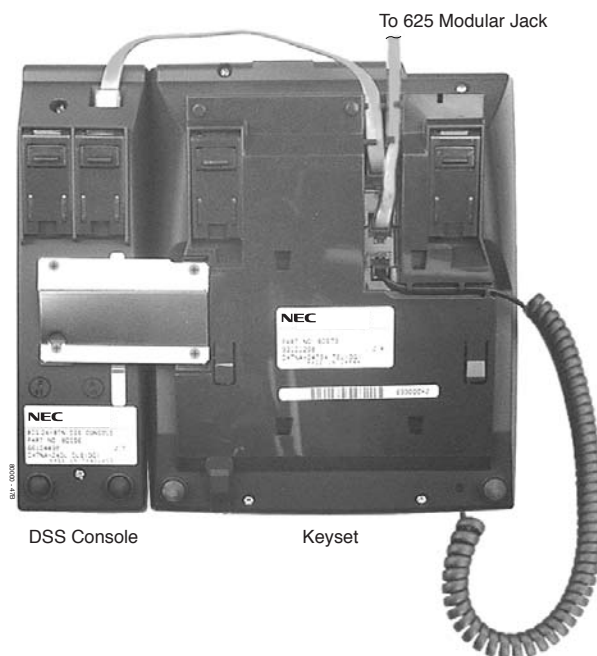
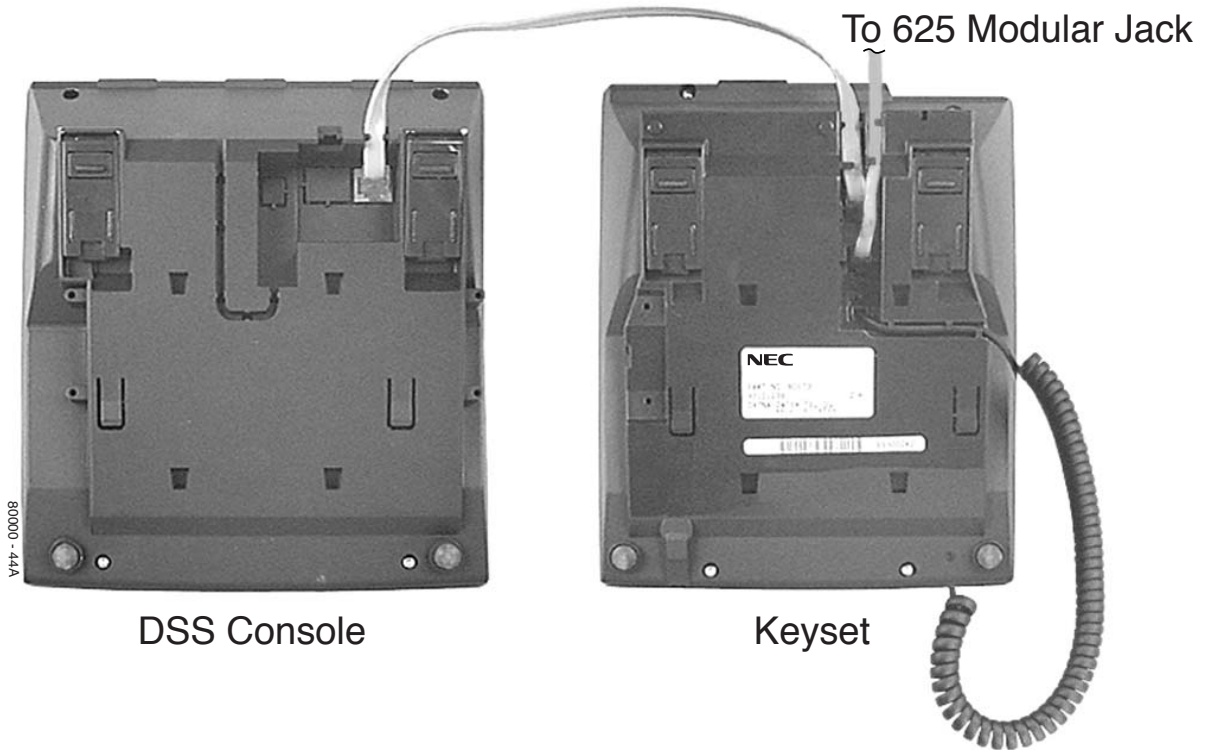

Figure 4-5: Installing a 24-Button DSS Console
Figure 4-6: Installing a 110-Button DSS Console
**To install a DSS Console** (Figure 4-5) (Figure 4-6):
4. If you have a 24-Button DSS Console, attach the metal plate to both the DSS Console and telephone. See Figure 4-5 *Installing a 24-Button DSS Console* on page 4-8 for more.